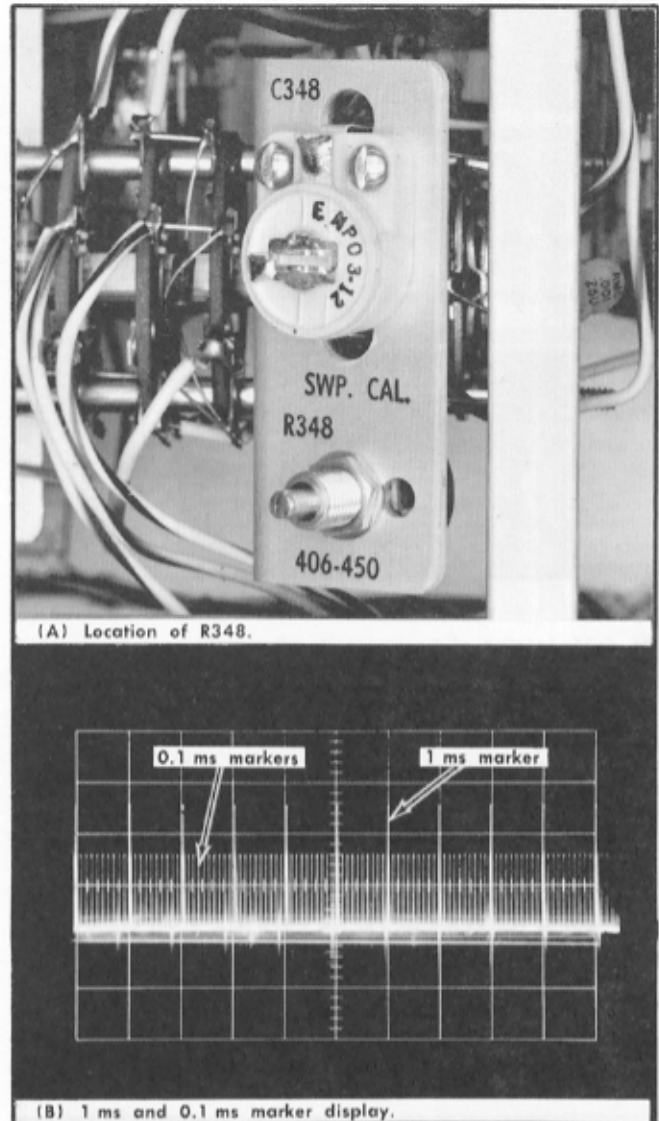

Fig. 6-24. Sweep Calibration adjustments.
- c. ADJUST the Swp Cal R348 (Fig. 6-24) for 1 ms marker per centimeter.